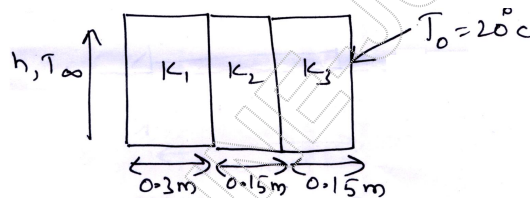

Fig.Q7(b) (12 Marks)
b. A composite slab consists of three materials with thermal conductivities of  $20 \text{ W/m}^\circ\text{C}$ ,  $30 \text{ W/m}^\circ\text{C}$ ,  $50 \text{ W/m}^\circ\text{C}$  and thickness  $0.3 \text{ m}$ ,  $0.15 \text{ m}$  and  $0.15 \text{ m}$  respectively as shown in Fig.Q7(b). The outer surface is at  $20^\circ\text{C}$  and the inner surface is exposed to the convective heat transfer coefficient of  $25 \text{ W/m}^2\text{C}$  and a medium at  $800^\circ\text{C}$ . Determine the nodal temperatures.